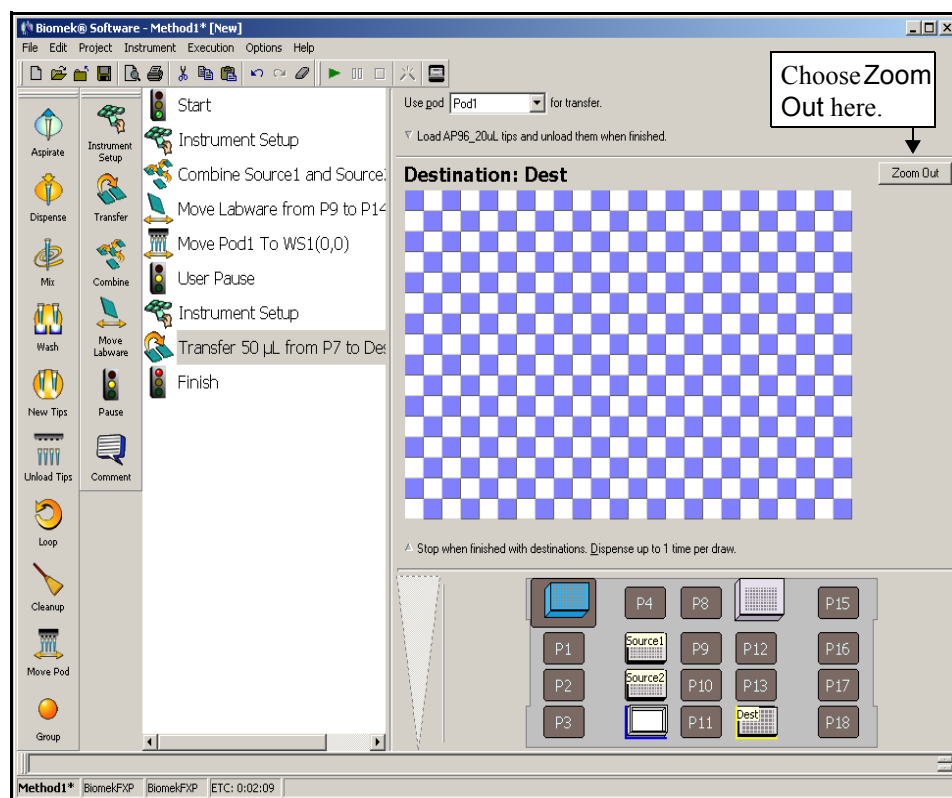

Figure 2-16. Quadrants 1 and 4 chosen in destination labware
7. Hold down **Ctrl** or **Shift** and click on any well that is in Quadrant 4. The main editor should look like Figure 2-16.